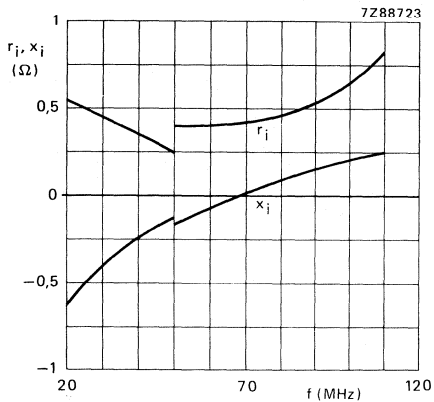

Fig. 12 Input impedance (series components).
Conditions for Figs 12, 13 and 14:
**OPERATING NOTE** for Figs 12, 13 and 14: